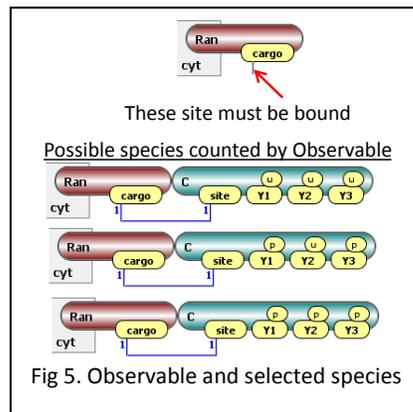
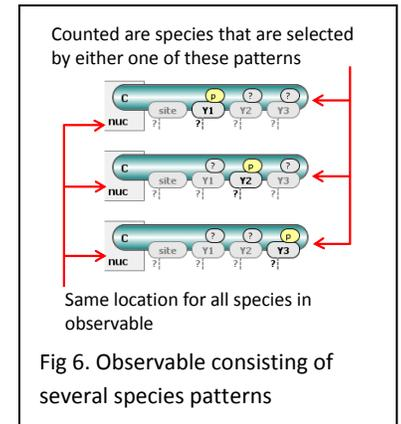
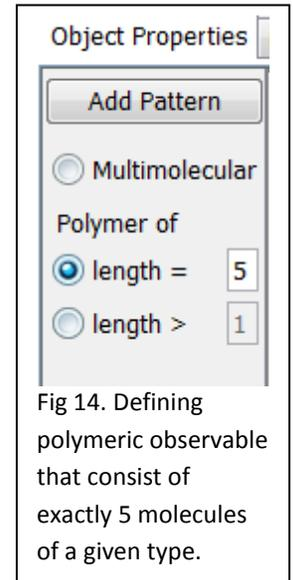

Fig 5. Observable and selected species
Fig 6. Observable consisting of several species patterns
Fig 14. Defining polymeric observable that consist of exactly 5 molecules of a given type.
Observables (Fig. 5) are used to specify model outputs, which are functions of the population levels of multiple chemical species that share a set of properties. For example, to simulate the tyrosine phosphorylation level of a particular protein, one needs to specify an Observable that is a function for the total amount of all chemical species containing the phosphorylated form of this protein. Observables are computed over a set of chemical species (Fig. 6) that share similar properties.
- Observables can be specified either as multimolecular as in Figs 5 & 6. Observables that count species comprising of multiple identical molecules are defined as polymers (Fig. 14).